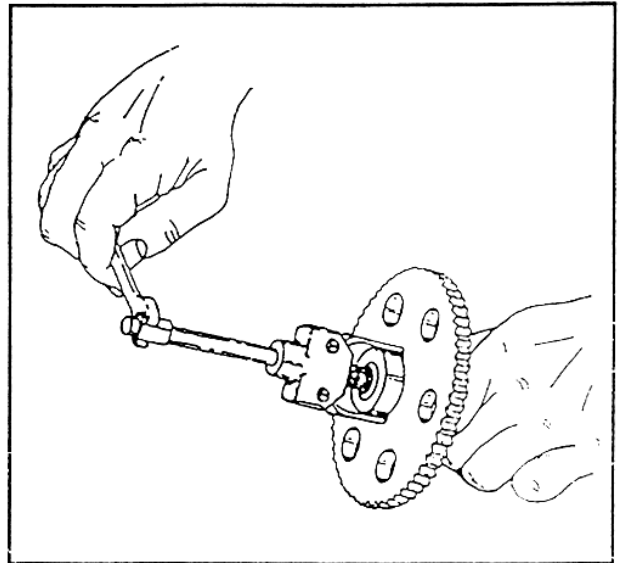

FIGURE 10
- 5.04 Should ball bearing remain on drive shaft after removal of drive shaft assembly, use a puller as shown in figure 10 to remove ball bearing.